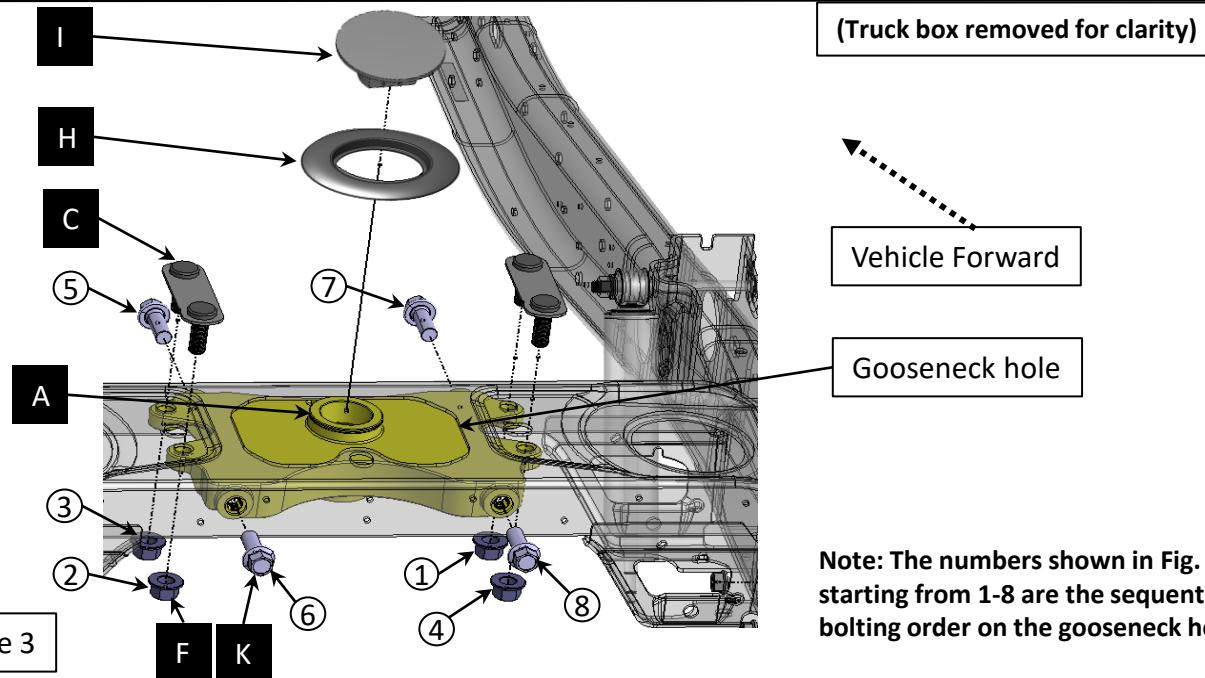

Figure 3
Note: The numbers shown in Fig. 3 starting from 1-8 are the sequential bolting order on the gooseneck head.
- 19) Install (2) gooseneck mounting straps (part 'C') through the two holes in vehicle frame cross member(See Fig. 3).
- 20) From beneath vehicle frame, insert gooseneck ball receiver casting through the (4) bolts from part 'C' gooseneck mounting straps.
- 21) Follow the sequential bolting order starting from 1 to 8 shown in Fig. 3 - Install first (4) M18-2.5 nuts (part 'F') on vertical threaded bolts (part 'C') following 1-2-3-4 bolting order and then Install (4) M18-2.5 bolts (part 'K') following 5-6-7-8 bolting order that runs horizontally through the vehicle cross member to the gooseneck module receiver. Torque all M18 bolts and nuts to 332 Lb.-ft. (450 N*m).